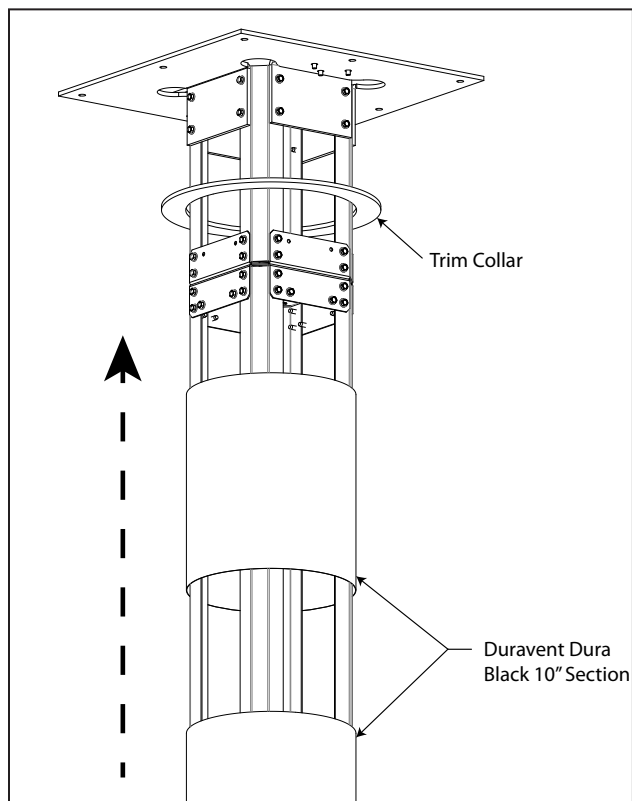

Figure 12: Suspension Structure Outer Components
4. Each suspension structure piece includes a DuraVent Dura Black 10" section. Gather these parts and slide them one-by-one over the suspension structure as shown in Figure 12.